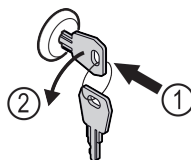

Fig. 182
- ▶ Insert the key. Fig. 182 (1)
- ▶ Turn the key anticlockwise by 90°. Fig. 182 (2)